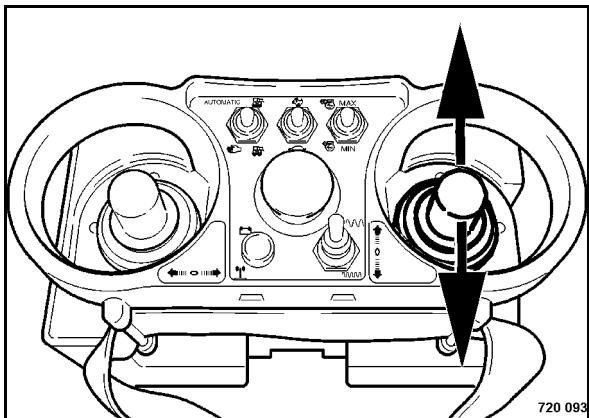

Fig. 46
- Move the travel lever (Fig. 46) forward or back.